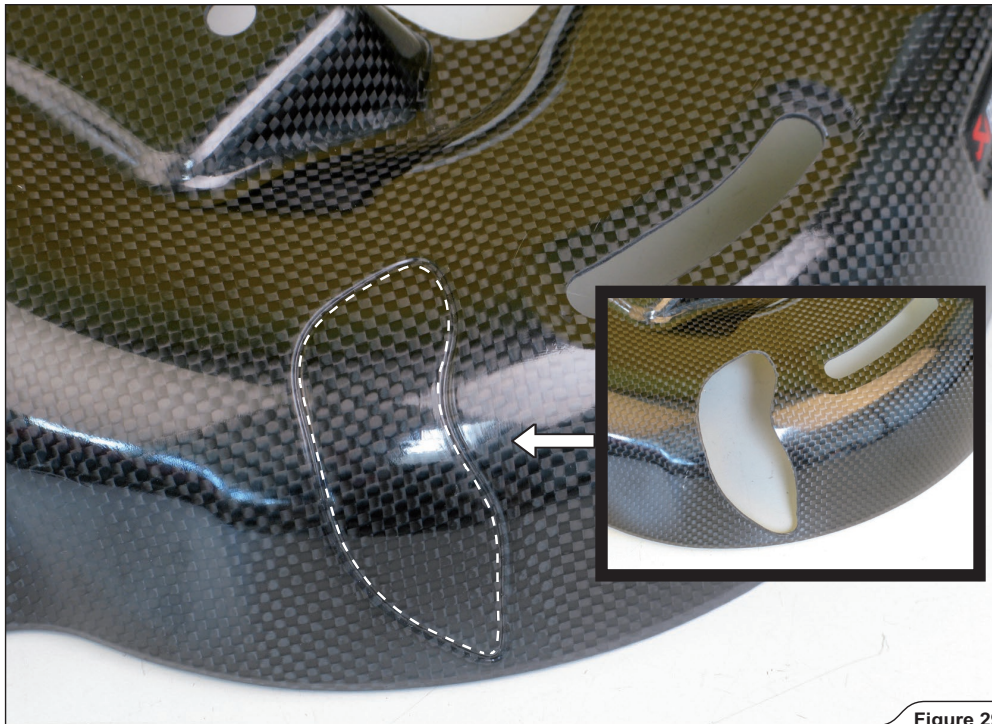

Figure 29
4. For use of passengers foot rests only: carefully cut/grind the impressed part of the carbon fiber heat shield, as shown (Figure 29).